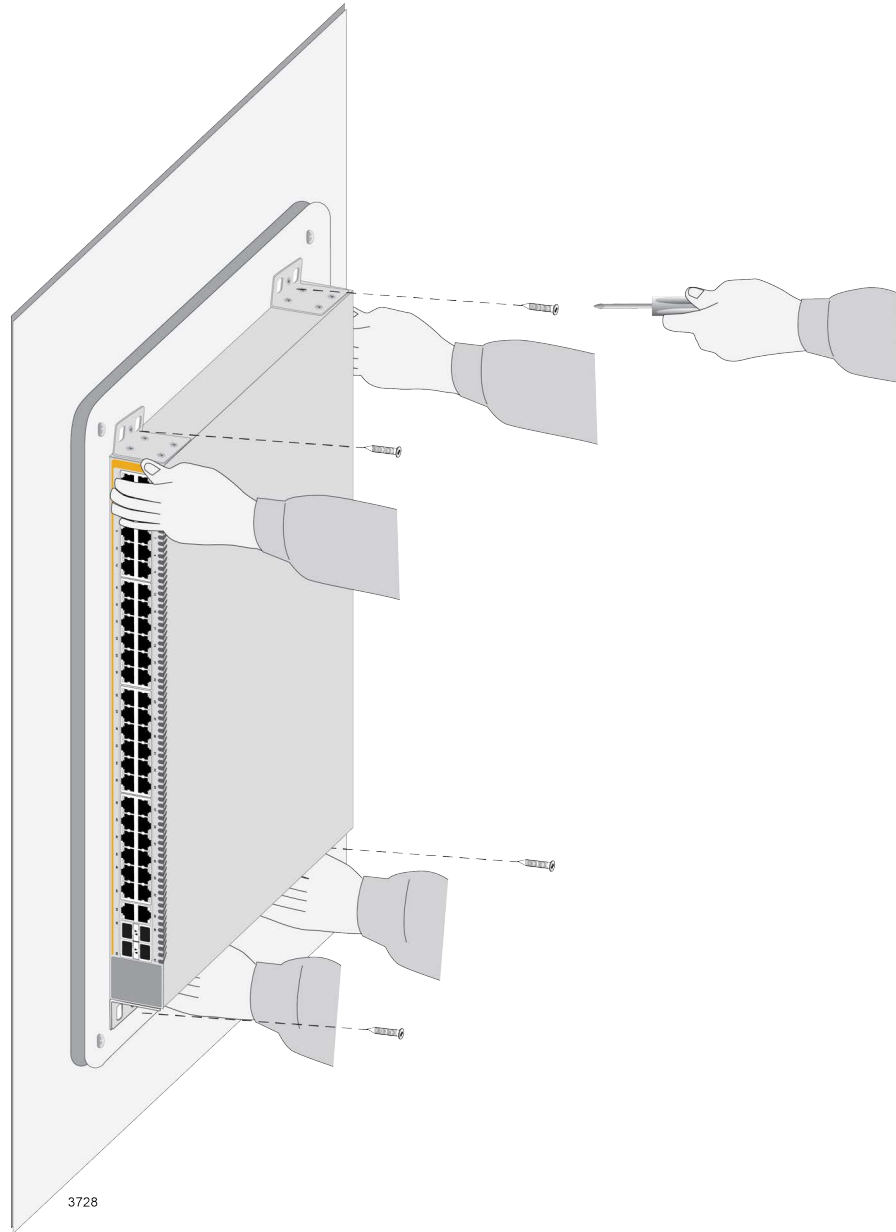

Figure 63. Securing the Switch to the Plywood Base
3. After attaching the brackets to the side of the switch, have two people hold the switch on the plywood base on the wall while you secure it with the four provided screws. Refer to Figure 63 on page 132.